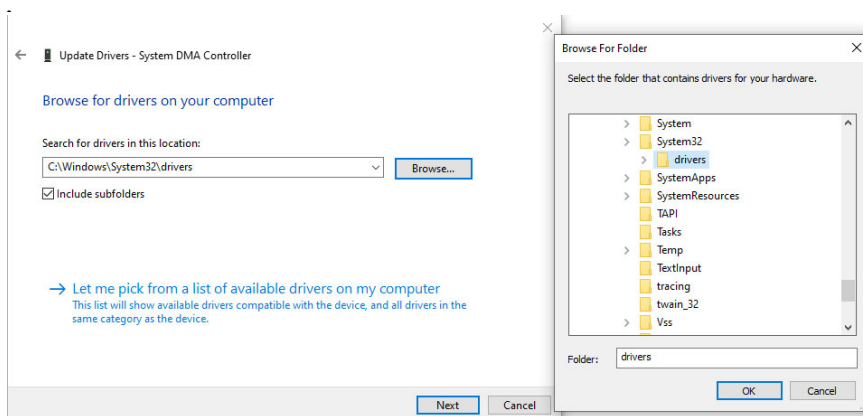

Figure 4-11. Update driver (32 bit)
6. To specify the path of the driver (see Figure 4-11):